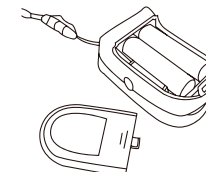

Figure 5 Battery installation
- Step 1. Refer to Figure 5, and insert the two AAA size batteries properly in the right direction.